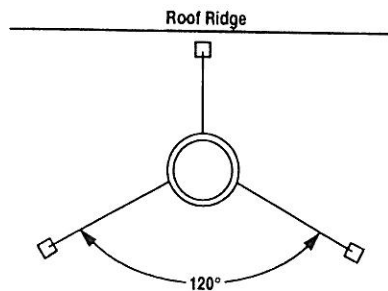

Figure 32
**Step 9.** Superior locking bands, Model LB, may be required if the chimney extends too high above the roof flashing. As a general rule, if the chimney extends more than 6' (1.8 m) above the roof flashing, the use of locking bands is advisable to strengthen the chimney assembly. Align the locking band at the chimney joint. Locking bands wrap around pipe joints equally covering the joints of both pipe sections. Use nut provided and TIGHTEN snugly. Do not over-tighten as this might damage chimney section (Figure 32).